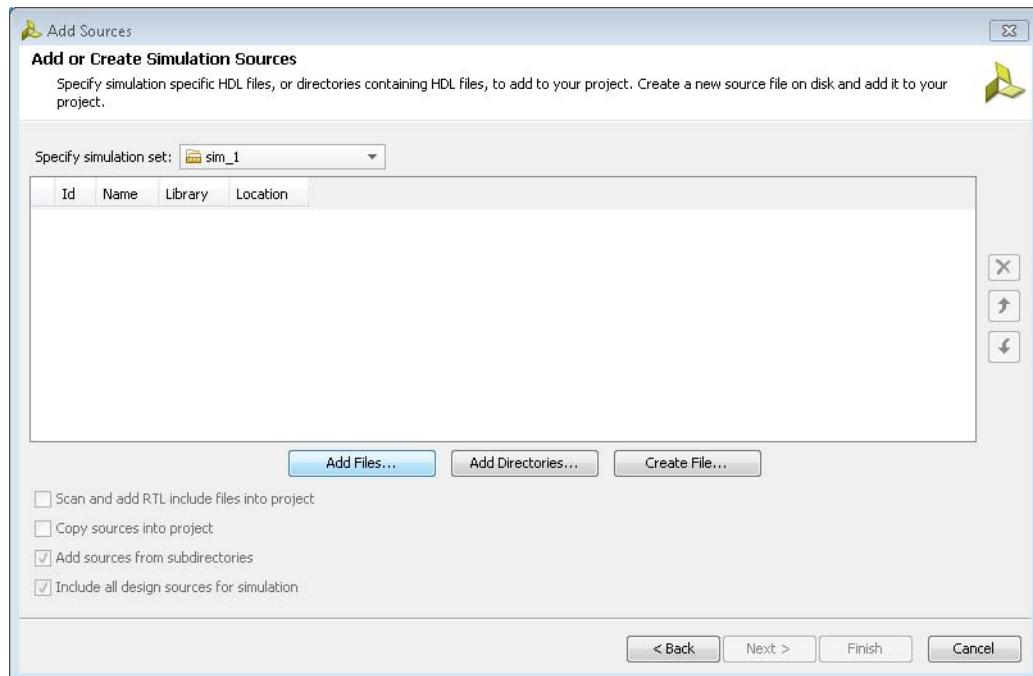

Figure 9-28: Add Source Dialog Window
5. In the Add Sources dialog box, click the **Add Files** button highlighted in Figure 9-28.